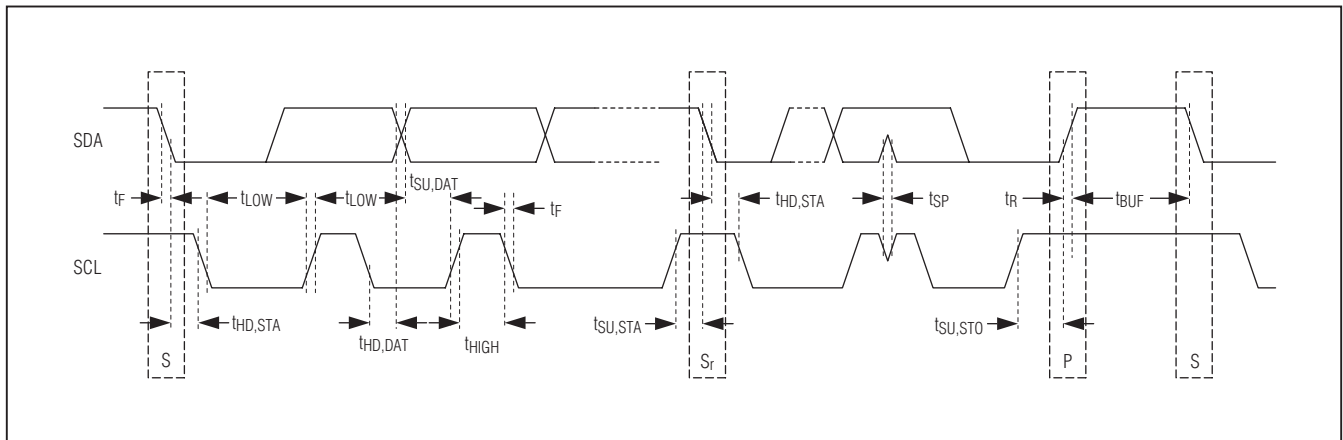

Figure 1. I2C Timing
Writing to the MAX13325/MAX13326 using I2C requires that first the master sends a START (S) condition followed by the device's I2C address. After the address, the master sends the register address of the register that is to be programmed. The master then ends communication by issuing a STOP (P) condition to relinquish control of the bus, or a Repeated START (Sr) condition to communicate to another I2C slave (see Figure 1).